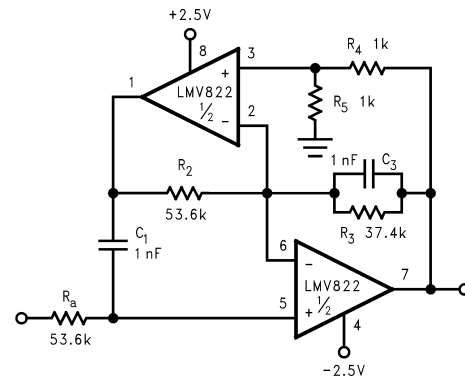
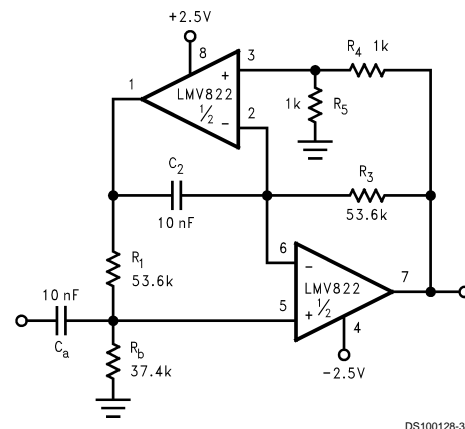
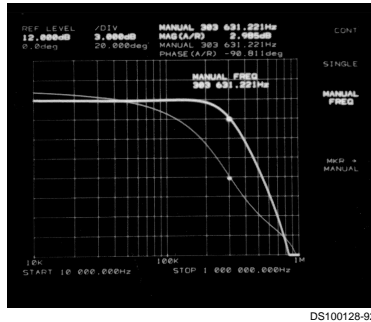

FIGURE 10. Dual Amplifier, 3 kHz Low-Pass Active Filter with a Butterworth Response and a Pass Band Gain of Times Two
FIGURE 11. Dual Amplifier, 300 Hz High-Pass Active Filter with a Butterworth Response and a Pass Band Gain of Times Two
FIGURE 12. 300 kHz, Low-Pass Filter, Butterworth Response as Measured by the HP3577A Network Analyzer
The LMV822/24 bring economy and performance to DAAFs. The low-pass and the high-pass filters of Figure 10 and Figure 11 (respectively), offer one key feature: excellent sensitivity performance. Good sensitivity is when deviations in component values cause relatively small deviations in a filter's parameter such as cutoff frequency ( $F_c$ ). Single amplifier active filters like the Sallen-Key provide relatively poor sensitivity performance that sometimes cause problems for high production runs; their parameters are much more likely to deviate out of specification than a DAAF would. The DAAFs of Figure 10 and Figure 11 are well suited for high volume production.
Single Amplifier versions require a large open-loop to closed-loop gain ratio - approximately 50 to 1, at the  $F_c$  of the filter response. Figure 12 shows an impressive photograph of a network analyzer measurement (hp3577A). The measurement was taken from a 300kHz version of Figure 10. At 300 kHz, the open-loop to closed-loop gain ratio @  $F_c$  is about 5 to 1. This is 10 times lower than the 50 to 1 "rule of thumb" for Single Amplifier Active Filters.
In addition to performance, DAAFs are relatively easy to design and implement. The design equations for the low-pass and high-pass DAAFs are shown below. The first two equations calculate the  $F_c$  and the circuit Quality Factor (Q) for the LPF (Figure 10). The second two equations calculate the  $F_c$  and Q for the HPF (Figure 11).
To simplify the design process, certain components are set equal to each other. Refer to Figure 10 and Figure 11. These equal component values help to simplify the design equations as follows:
To illustrate the design process/implementation, a 3 kHz, Butterworth response, low-pass filter DAAF (Figure 10) is designed as follows: